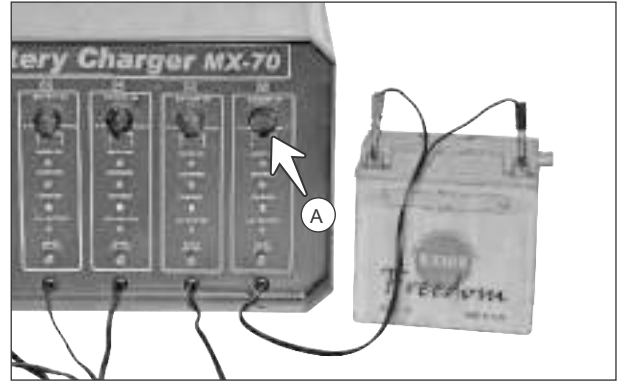

Fig. 5.70
- Turn the selector knob (A) of the charger to the 0.9 amps position incase of multiple battery charger. (Fig. 5.70)